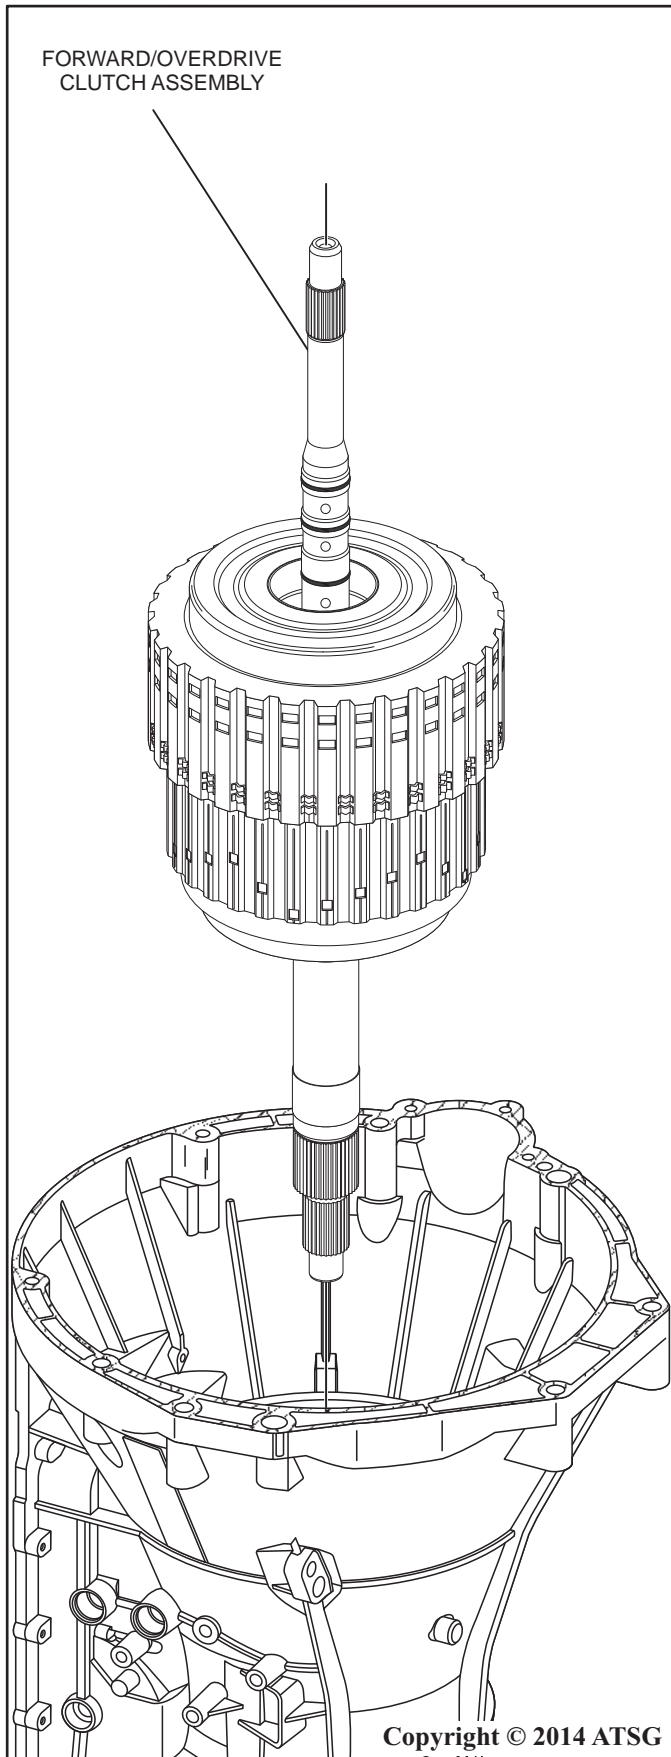

Figure 142
29. Install the forward/overdrive clutch assembly into the transmission as shown in Figure 142.